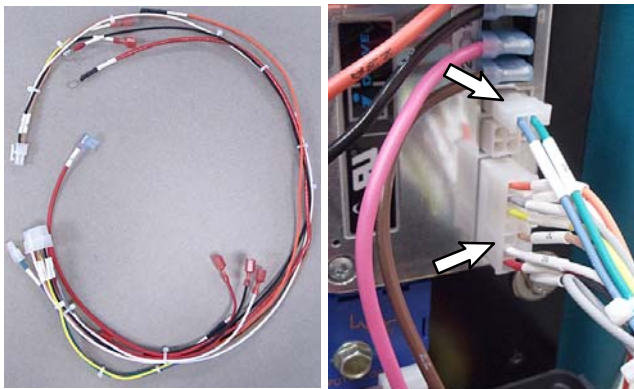

Fig. 5
6. Connect the new wire harness to the new drive module as shown (Figure 5)